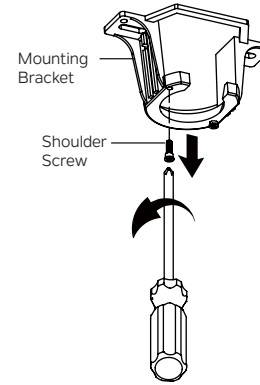

Fig. 17
Step 1. Remove one of the two shoulder screws in the mounting bracket. Loosen the second shoulder screw without fully removing it. (Fig. 17)